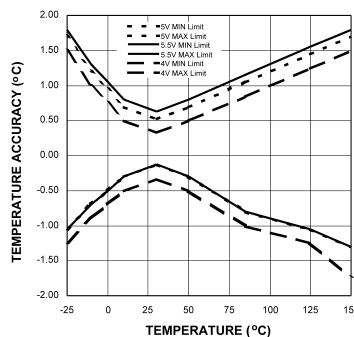
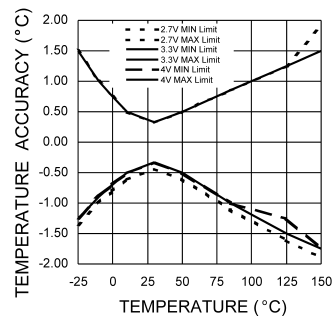

Figure 2. Accuracy vs Temperature with $+V_S = 5V$
Figure 3. Accuracy vs Temperature with $+V_S = 3.3V$
- (1) Typical values are at $T_A = 25^\circ C$ and represent most likely parametric norm.
- (2) Limits are guaranteed to TI's AOQL (Average Outgoing Quality Level).
- (3) The limits found in Table 1 supersede the limits shown in the Electrical Characteristics Table. The Accuracy specification includes errors due to linearity, offset and gain. The accuracy specification includes effects of self heating with negligible digital output loading. Pull-up resistors should be maximized (10k typical recommended), so that self heating due to digital output loading is negligible.
- (4) Limits at intermediate temperatures can be calculated using a straight line interpolation as shown in Figure 2 and Figure 3.
- (5) Linearity Error is defined as the worse case difference of an actual reading to that of a calculated reading derived from the straight line whose endpoints are measured at $30^\circ C$ and $125^\circ C$ for the range of $30^\circ C$ to $125^\circ C$ or whose endpoints are measured at $30^\circ C$ and $-25^\circ C$ for the range of $30^\circ C$ to $-25^\circ C$.
- (6) Offset Error calibration should be done at $30^\circ C$. The residual error of the transfer function is then equivalent to the Accuracy Limit minus the Offset Limit. This does not take into account the power supply sensitivity of the offset error. Nor, does it take into account the error introduced by the calibration system used.
- (7) This specification is provided only to indicate how often temperature data is updated. The LM92 can be read at any time without regard to conversion state (and will yield last conversion result). If a conversion is in process it will be interrupted and restarted after the end of the read.
- (8) 12 bits + sign, two's complement
- (9) Default values set at power up.